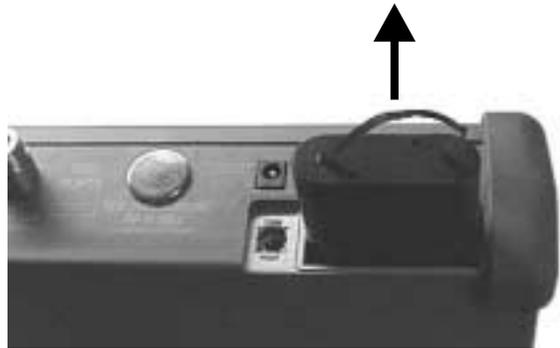

Figure 8. Removing the Battery
4. Grasp the battery lanyard and pull the battery straight up and out of the unit, as illustrated in Figure 8.